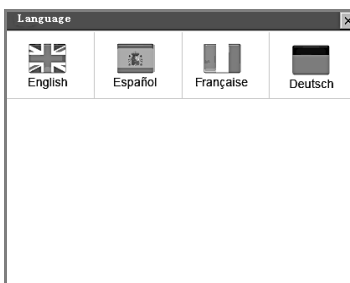

Figure 3.3
- 2) Use the **LEFT/RIGHT** scroll button to select the desired language and press the **OK** button to save your selection and return to previous screen (Figure 3.3).